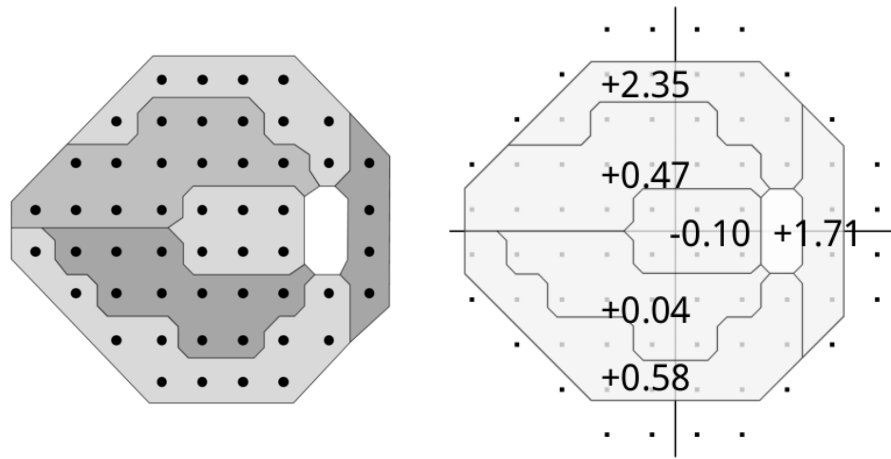

Fig. 58 – Stimuli of the 24-2 pattern (left) and 30-2 pattern (right) grouped in clusters⁹
6. Mean Deviation (MD), Pattern Standard Deviation (PSD) and Fundus Perimetry Deviation (FPDI) indices, plus information if the Tracking and CC were enabled during the exam
7. Cluster MDs (dB) (see clusters identification in Fig. 58);
- the cluster analysis (7) displays the Cluster MDs only for the subset of locations that are in common with the 24-2 grid (see Fig. 58).